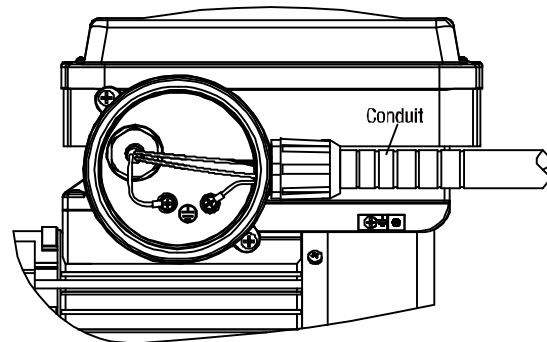

FIG. 4
- Install conduit to connector. (FIG.4)